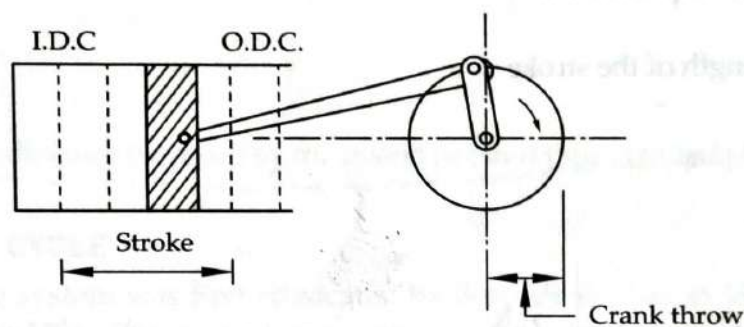

Fig. 4
It is also equal of two times the crank radius, (shown in Fig. 4).
4. Crank throw: The distance between the centres of the crankshaft and crank pin is known as crank throw. It is equal to half of the stroke length. It is also called crank radius, (shown in Fig. 4).